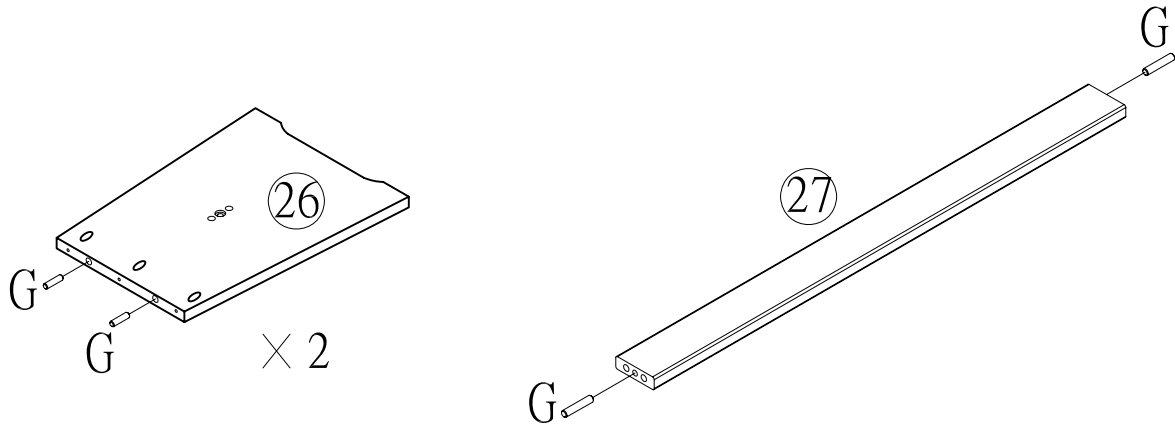

FIGURE 5
- 1.1 INSERT (06) WOODEN DOWELS(G) INTO HOLES LOCATED AT UPPER END OF LEGS #26 AND CROSSBAR (27) AS SHOWN IN FIGURE 5.